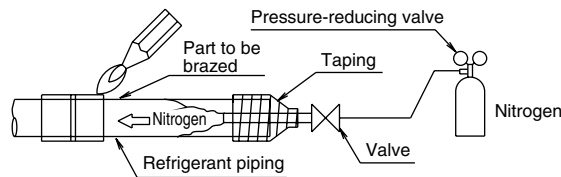

Fig. 5
2. When feeding nitrogen into the pipes while doing the brazing, the pressure-reducing valve should be set to 2.9psi. **(Refer to Fig. 5)**